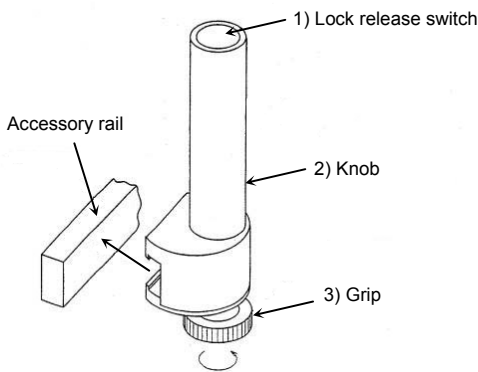

Fig.1 Grip switch
(3) Standard accessories
- Grip switch 1 set (Fig.1)